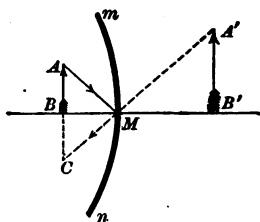

FIG. 400.—To get the size of a virtual image.
**429. Size of a virtual image.** Since every ray from  $A$  (Fig. 400) is reflected so as to seem to come from  $A'$ , the ray from  $A$  to  $M$ , the middle of the mirror, will be reflected in the direction  $A'MC$ . Since the angles of incidence and reflection are equal,